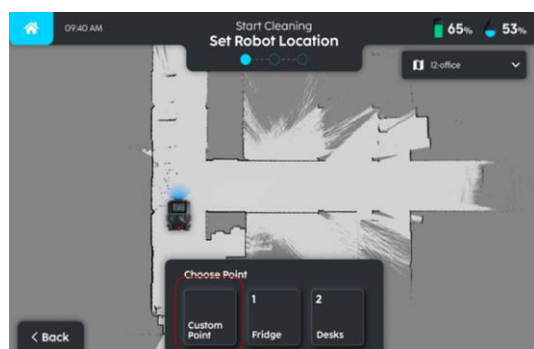

FIGURE 12-8
1. If robot is not localized, select a point closest to the robot to initiate localization process (Fig. 12-8).